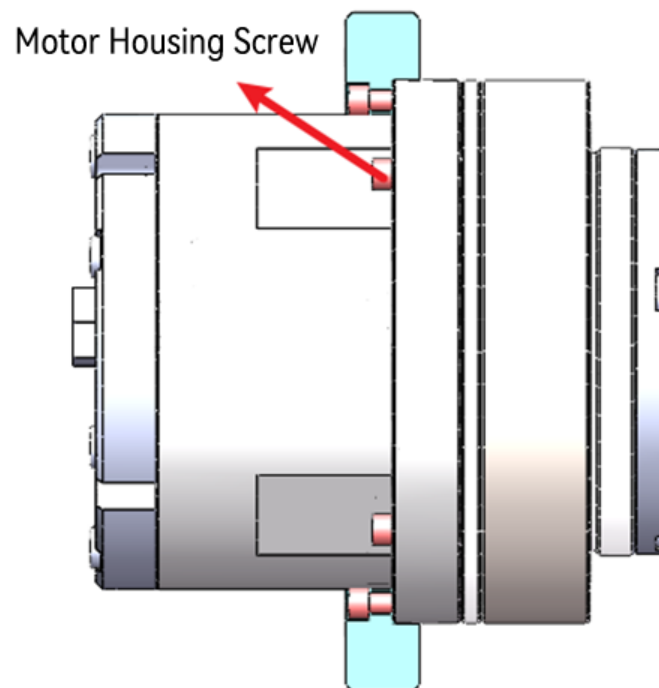

Figure 18-6 Improper Installation
- (5) The improper installation will affect the force of the module, as shown in Figure 18-6: Since the module is equipped with precision cross roller bearing to directly support external loads, the improper installation method does not transmit the force of the output flange to the cross roller bearing, but to the bolts that fix the motor casing.